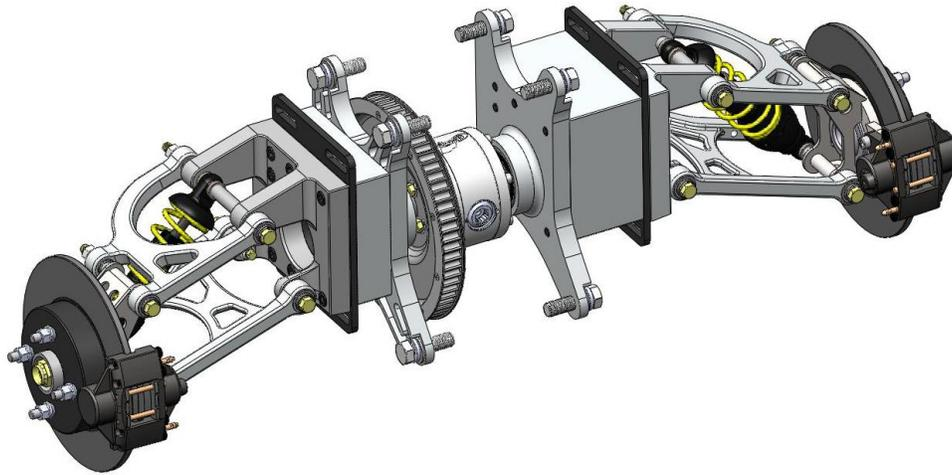

Figure 6 Rear View
- a. Remove the 2 rear connector tubes and the one front top connector tube and position drive belt onto the rear pulley. See Figure 6